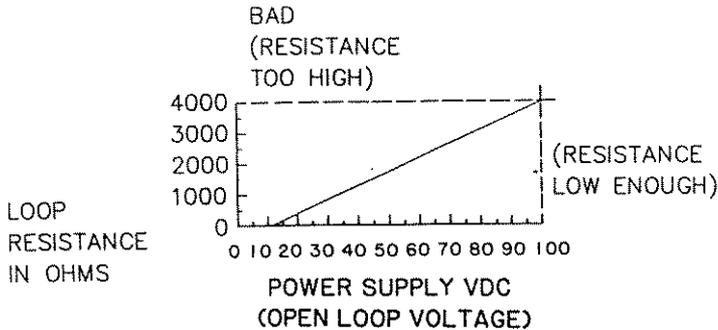

Figure 6-5
- E. Measure the resistance between the two wires that were just removed from Terminals 1 and 2 of the electronic unit. The graph below will tell you when the resistance is too large. See Figure 6-5.